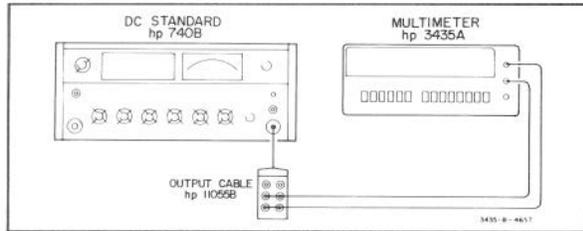

Figure 5-2. DC Voltmeter Accuracy Test.
- b. Connect the DC Standard to the VΩ and COM terminals as shown in Figure 5-2.